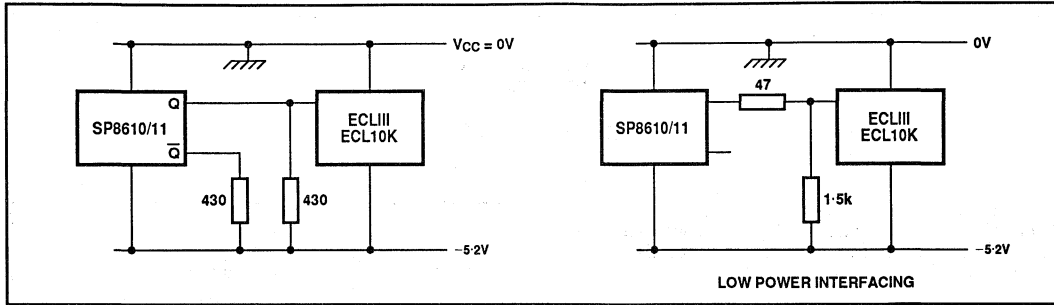

Fig. 7 Interfacing SP8610/11 to ECL10K and ECL10K
5. The emitter follower outputs require external load resistors. These should not be less than 330Ω and a value of 430Ω is recommended. Interfacing to ECL/10K is shown in Fig. 7.